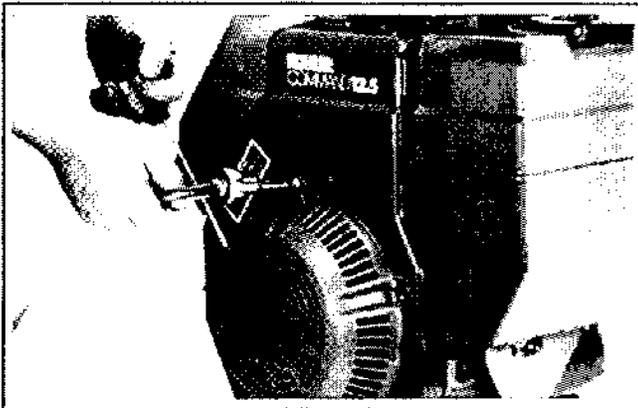

Figure 7-2. Installing Retractable Starter.
2. Pull the starter handle out until the pawls engage in the drive cup. Hold the handle in this position and tighten the screws securely. See Figure 7-2.